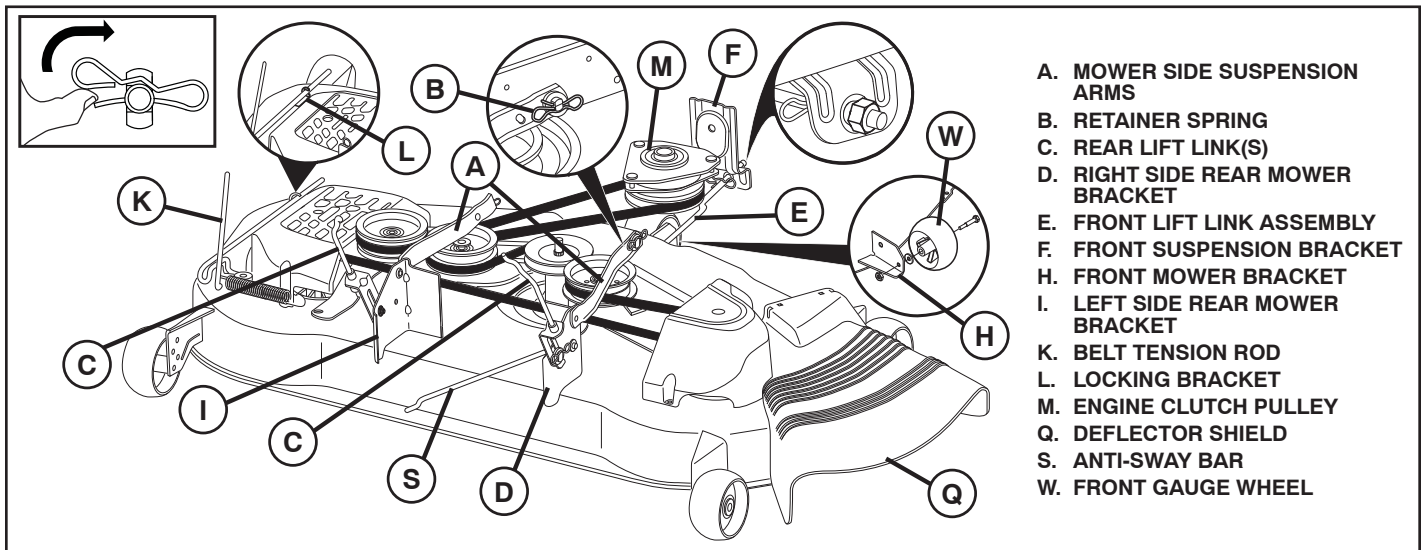

Fig. 21
TO REMOVE MOWER (See Fig. 21)
TO INSTALL MOWER AND DRIVE BELT (See Figs. 21 - 32)
9 INSTALL BELT ON ENGINE CLUTCH PULLEY (M) (See Fig. 21 & 32)
- Disengage belt tension rod (K) from locking bracket (L).
- Install belt onto engine clutch pulley (M).